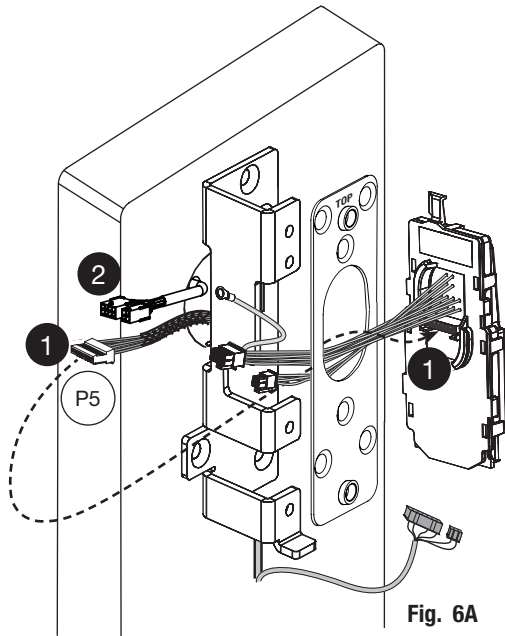

Fig. 6A
- Feed Reader wire harness through door and through hole in mounting plate (Fig. 6a).
- Insert two #8 x 1-3/4" flat head through mounting plate and into escutcheon (Fig. 6a and 6b).
Pass the ElectroLynx harness through center hole of mounting plate (Fig. 6A) to make the following connections:
a. Connect P5 (7 Pin Connector) from reader board to J5 on interior escutcheon PCB assembly (Fig. 6A).